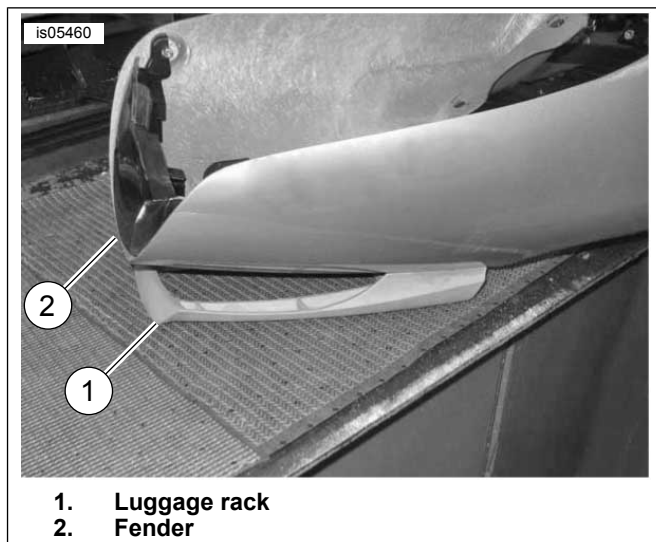

Figure 3. Align Luggage Rack and Fender
6. See Figure 3. Put the luggage rack (1) upside down on the work bench and align the holes in the luggage rack with the holes in the fender (2).